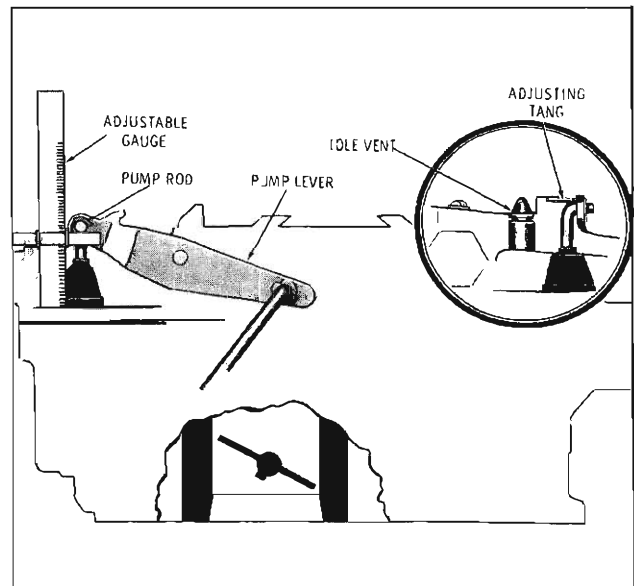

Fig. 4-32 Atmospheric Idle Vent Adjustment
3. Place gauge as shown in Fig. 4-32.